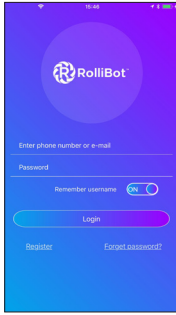

Fig. 1
Step 2. Register for an account. Then sign in with your Rollicool account details on the app (fig. 1) to log in. If you already have a Rollibot account, simply log in.